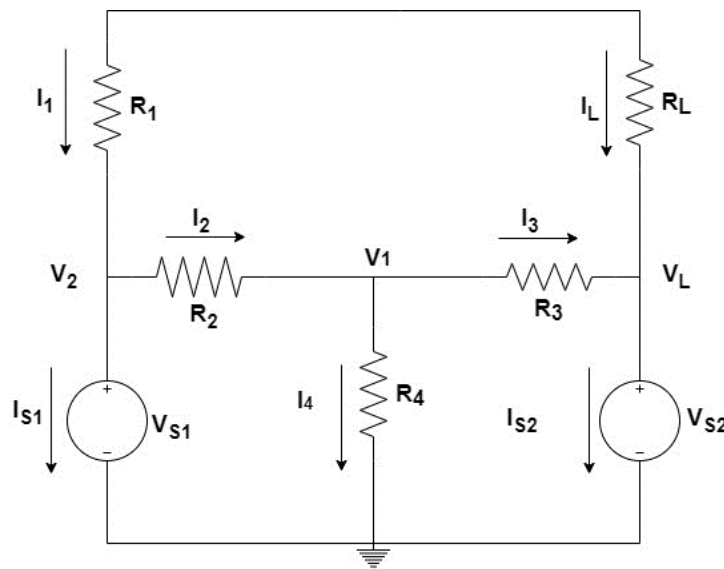

Figure 1: Connection Diagram for the Dual Voltage Supply Experimental Network.
- 1- Consider the first circuit in Fig. 1 where $R_L = 2K\Omega$, and calculate its Thevenin's and Norton's equivalent circuits as depicted in Fig. 2.
- Connections are made as shown in Fig.1